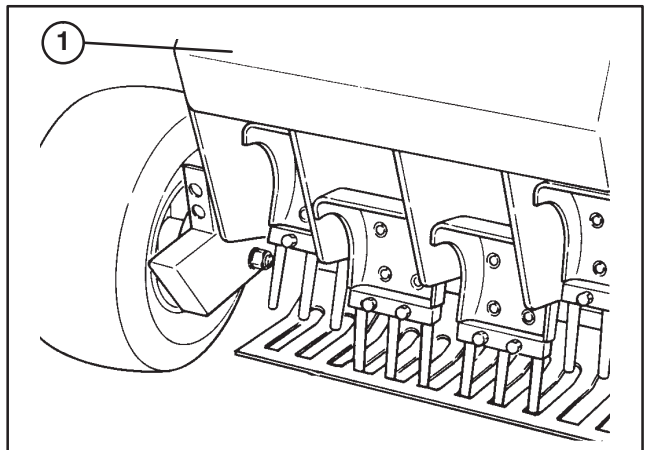

Figure 34
A. Unlatch and remove coring head cover (Fig. 34).